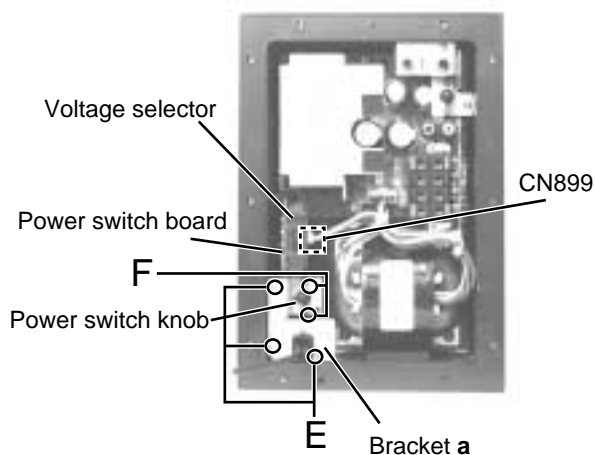

Fig.10
■ Removing the power switch board (See Fig.10)